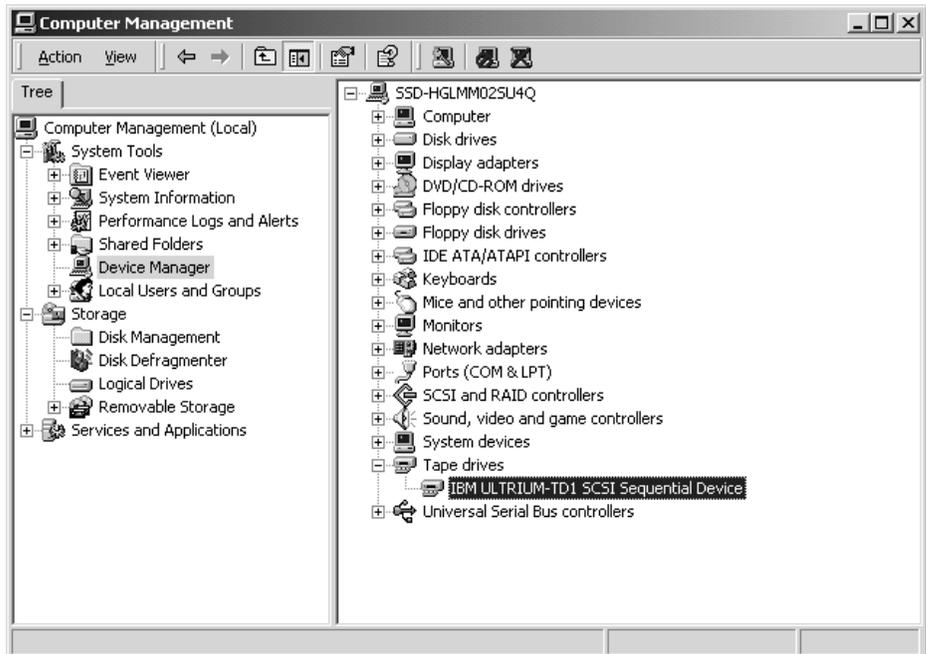

Figure 35. Drive and Changer Menu
17. Verify that the Ultrium devices are working properly when the device driver is enabled. The Ultrium devices should be listed under either **Tape Drives** or **Medium Changers**. See Figure 35.